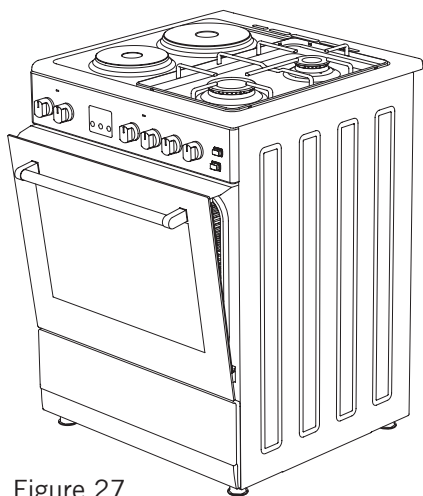

Figure 27
4. And then secure the safety panel in between oven and front cover by gently closing the cover. (Figure 27)